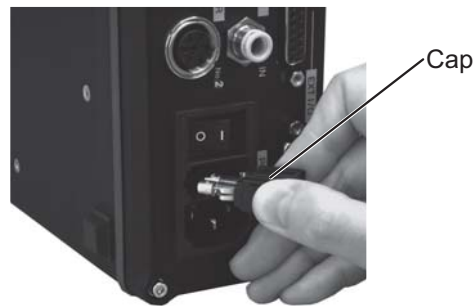
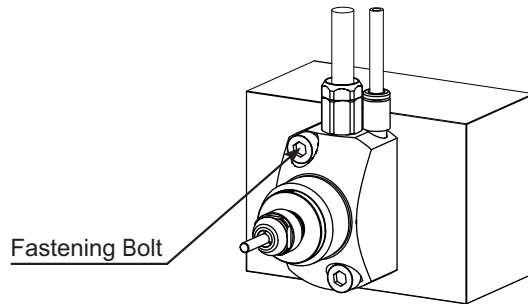

Fig. 7
Fig. 27
- (1) Insert the motor spindle housing diameter section into the machines tool plate bore.
- (2) Secure the motor spindle through the counter-sunk holes (2 locations) on the flange face using bolts as shown in Motor S pindle Operation Manual Fig. 2, Fig. 4, Fig. 6 and Fig. 7. Refer to table 1 and Fig. 27.